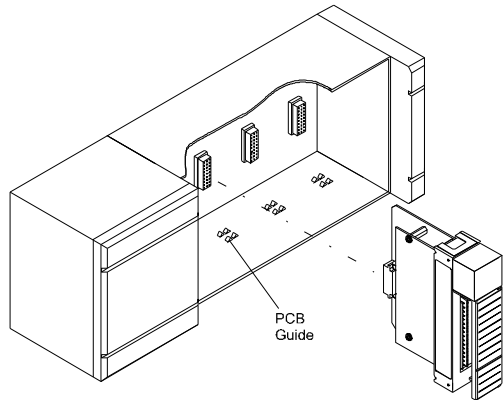

FIG. 3-3 POSITIONING THE MODULE FOR INSTALLATION
- Step 1. Make sure that the module is oriented correctly for installation. (See Fig. 3-3)